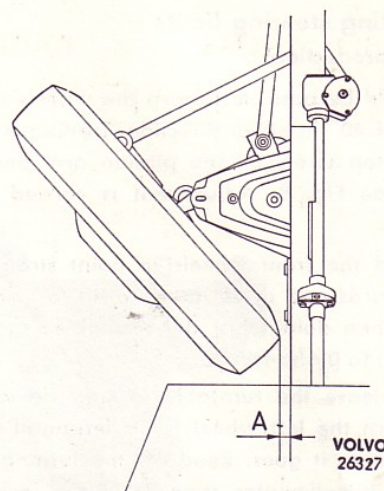

Fig. 9. Adjusting the wheel lock.
Turning is limited by the stop screw on the pitman arm and relay arm, see Fig. 9.
1. Turn the left wheel for a left-hand turn as far as it goes. Check that the distance between the tyre and the stabilizer (measurement A, Fig. 9) is 10–15 mm ($25/64-19/32''$). If not, slacken the locknut for the relay arm stop screw, after which this is turned until the correct value is obtained. Then lock the stop screw.